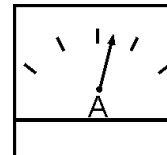

Figure 49. Ammeter (Load)
12. Observe the generator's ammeter (Figure 49) and verify it reads the anticipated amount of current with respect to the load. The ammeter will only display a current reading if a load is in use.